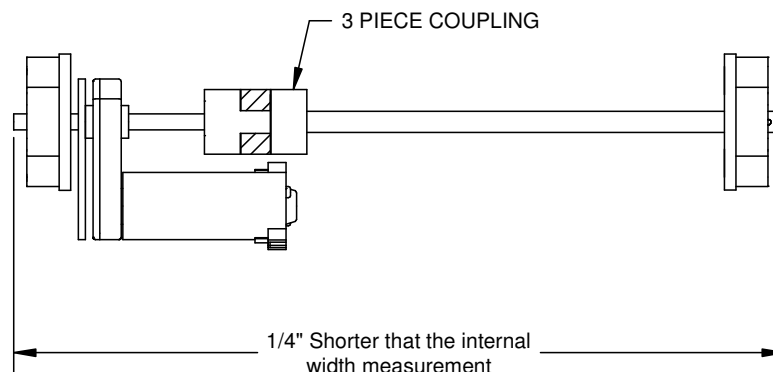

Fig. 4
- d) Tighten one of the setscrews, leaving the other one loose until the assembly is installed. Check the total shaft length. The combined length should be 1/4" shorter than the measured internal width (see Fig. 4).